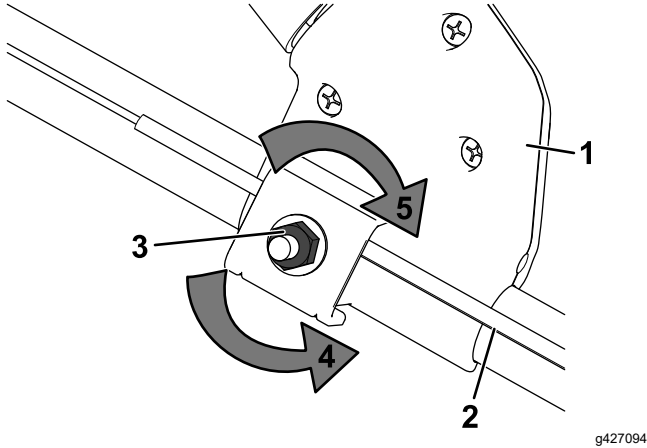

Figure 20
1. Turn the adjustment nut counterclockwise to loosen the cable adjustment (**Figure 20**).
2. Adjust the tension on the cable (**Figure 20**) by pulling it back or pushing it forward and holding that position.